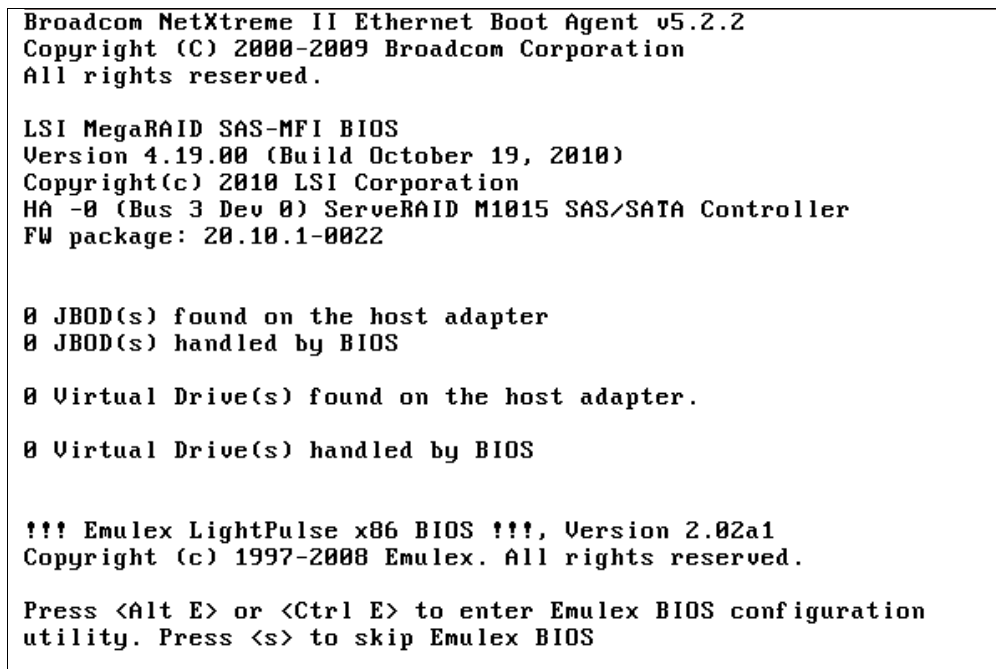

Figure 5-58 Alt + E for Emulex BIOS Configuration Utility
1. Press **Alt E** to go to the Emulex BIOS Utilities, as shown in Figure 5-58.